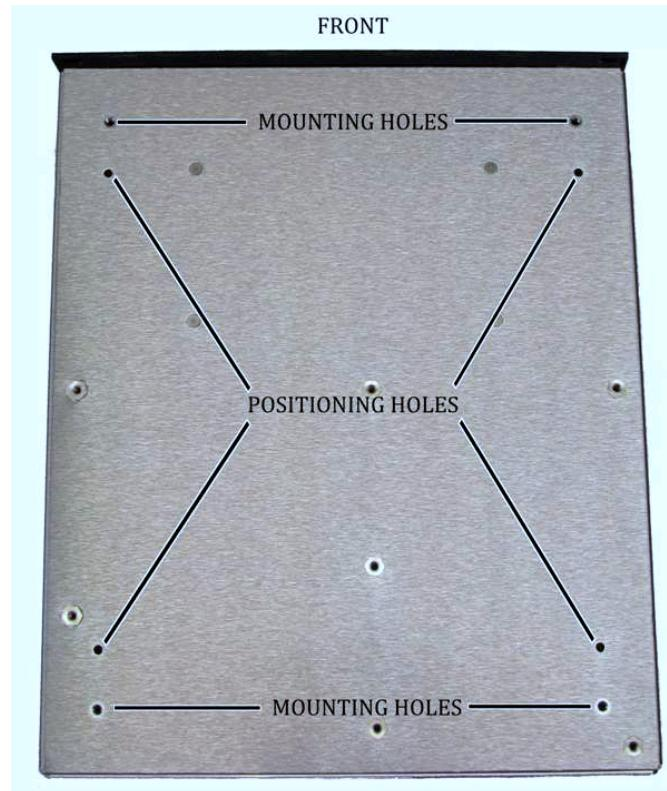

Figure 2.2: Bottom view
3. Locate on the bottom of chassis the marked points (Fig. 2.2).